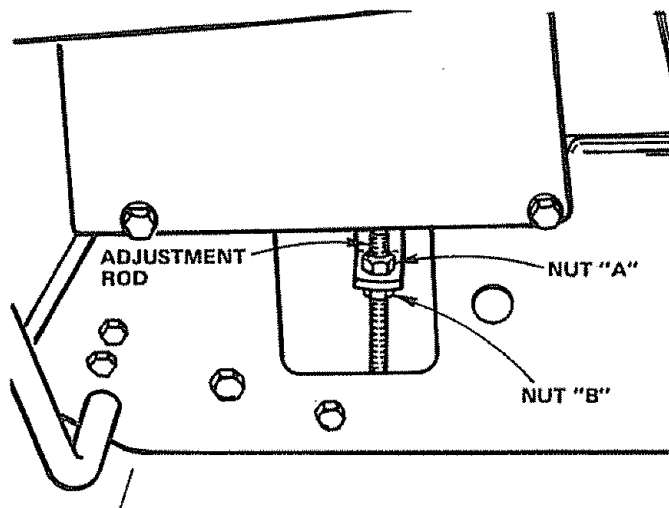

FIGURE 18
2. If adjustment is required, snap out Access Cover on L.H. side of tractor above Foot Rest (Fig. 18).